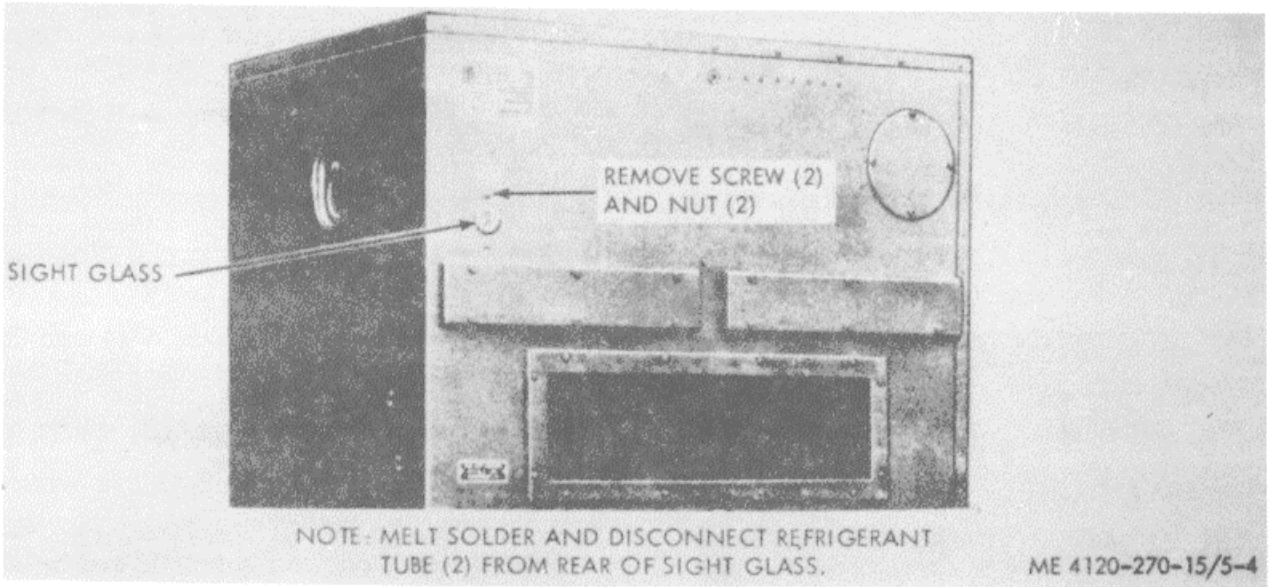

Figure 5-4. Sight glass, removal and installation
b. Installation. Refer to figure 5-4 and install sight glass.